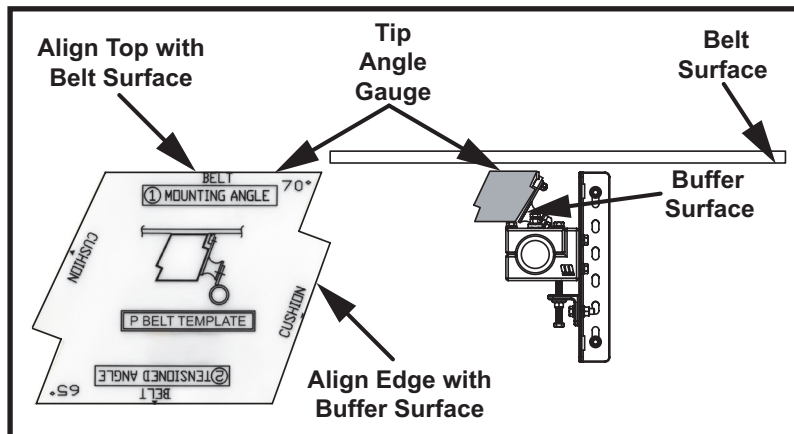

Figure 13. Martin® P2 Secondary Belt Cleaner HD Bolt Tensioner Tip Angle Gauge For V-Tips
9. For V-Tips rotate the tips to the pre-set angle provided by the angle gauge supplied and tighten the clamp block bolts equally. Tighten the mainframe lock bolts. (Refer to Figure 13.)
10. For V-Tips rotate the tips to the pre-set angle provided by the angle gauge supplied and tighten the clamp block bolts equally. Tighten the mainframe lock bolts. (Refer to Figure 13.)